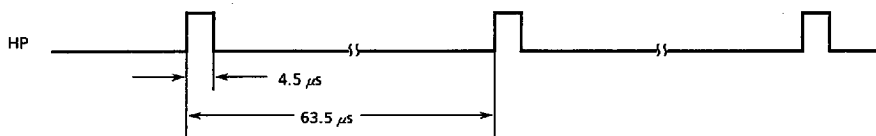

Figure 3.14.6 Wave form of HP signal output
H.Pulse Generator generates serrated pulse (HP signal) to mix with pseudo-V.SYNC. The timing to mix pseudo-V.SYNC with HP signal is controlled by TPG02 from the Timing pulse generator 0 (TPG0) (Refer to section 3.15 Pseudo-sync signal output circuit). By setting <HSEN> in CSYNCR control register (CSYNCR) to "1", HP signal can be synchronized with the H.SYNC (3.0 μs) signal, outputted from H/V Separator, during TPG02 is "L". In case that <HSEN> is "0", HP signal is not synchronized with C.SYNC signal input. Wave form of the HP signal output is shown in Figure 3.14.6.